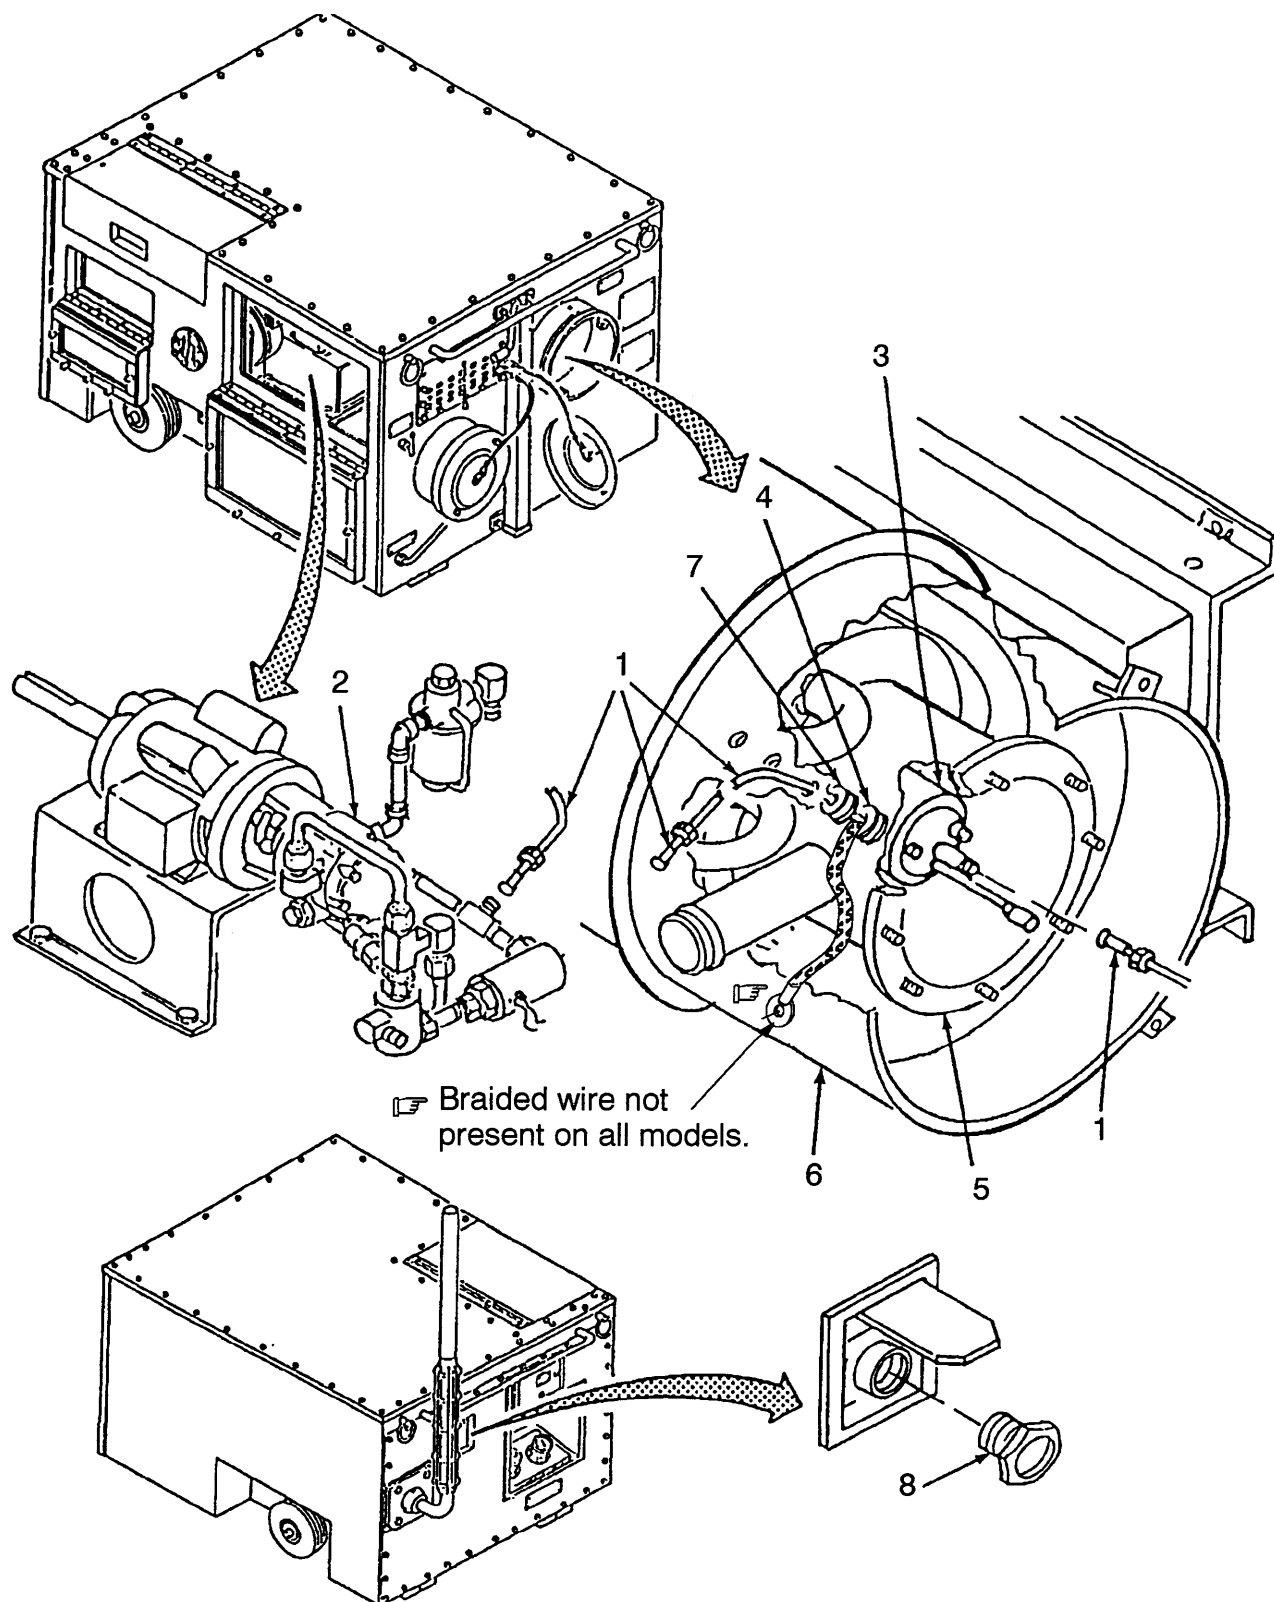

Figure 4-63. Fuel Line and Sight Glass Removal
*Fuel Line and Sight Glass* (Refer to Figure 4-63)
- (9) Disconnect fuel line (1) from fuel pump (2) and burner (3).
- (10) Push grommet (4) out of heat exchanger (5) toward heat exchanger shell (6).
- (11) Push grommet (7) out of heat exchanger shell (6) toward heat exchanger (5).
- (12) Remove fuel line (1) from between heat exchanger (5) and heat exchanger shell (6).
- (13) Remove sight glass (8).